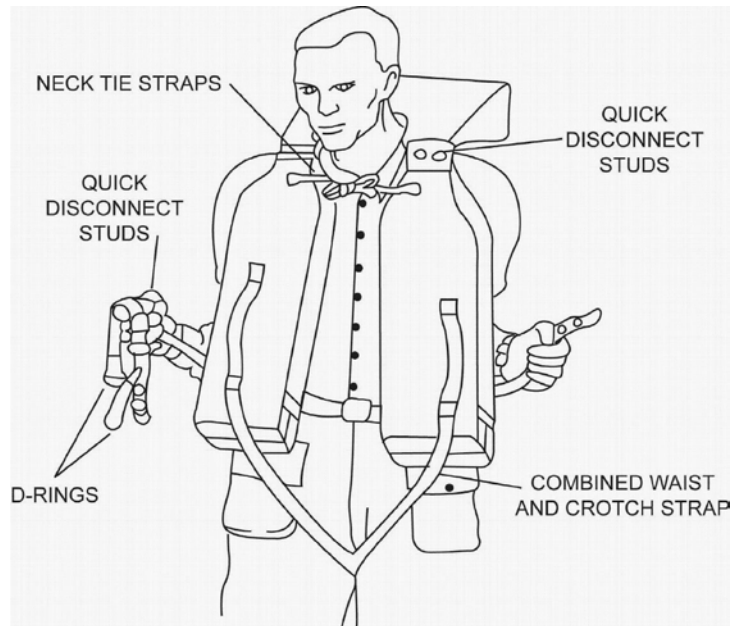

Figure 077-2-4. Arrangement of Neck Tie Straps and Combined Waist and Crotch Strap on Yoke Type Life Preserver
- c. Secure the tie straps around the neck with a bow knot. **Never tie a square knot.** Neck tie straps are tied, as shown in Figure 077-2-4.
- d. Pass the combined waist and crotch strap through the legs from front to rear. Pass the strap around to the front of the body and under the segment of strap stitched to life preserver. See Figures 077-2-4 and 077-2-5.